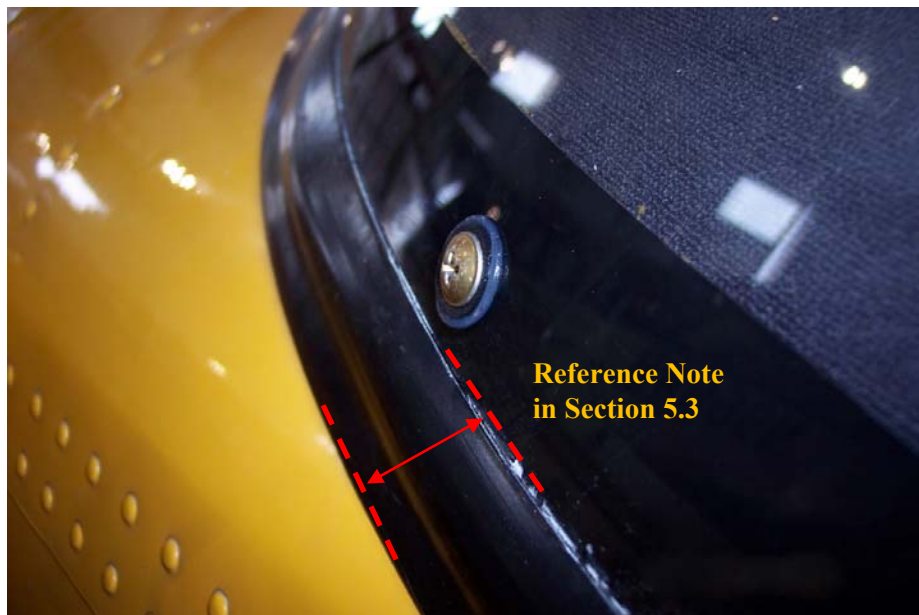

Figure 5-11: Lower Screw Installed (Outside View)
14. Tighten the nut until the sealing washer begins to squeeze out around the screw head (max torque 10 in-lb). Refer to **Figure 5-11** for a view of the installed lower screw from the outside.
If the airplane is equipped with 1.3" wide (or less) molding, the procedure in **Section 5.3** is mandatory (refer to **Figure 5-11**). If the airplane has 1.7" wide molding installed, proceed to **Section 5.4**. 1.7" wide molding (P/N 100-210-7012-01/-02) can be ordered by contacting Quest Customer Service.